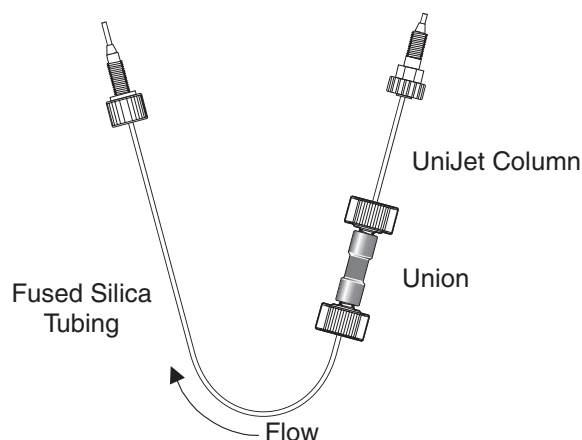

Figure 14. Generic assembly of microbore column with the reusable fittings. The long nut at upper right fits into the injection valve.
1. Remove the plastic end caps from the column. If you are using the fused silica tubing, assemble as shown in Figure 14 before installing any portion of it in your chromatograph. As you hand-tighten the fittings into the union, be sure that the tubing and column are pushed into the ports tightly in order to avoid dead volume. It's a good idea to push the nuts and ferrules back at least 1 cm away from the tube end before making a connection.